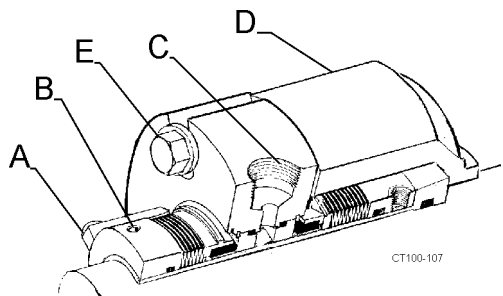

Figure 60 - Typical Cartridge Seal
NOTE: Be sure the flushing ports in the cartridge seal are positioned with the inlet toward the bottom and the outlet toward the top (Figure 60, item C).
14. Hold the backplate in place and tighten the cartridge seal into the cartridge adapter by tightening the cap screws (Figure 60, item E).
16. Tighten the two set screws to the shaft (Figure 60, item B).
17. Remove the lugs/spacers (Figure 60, item A).